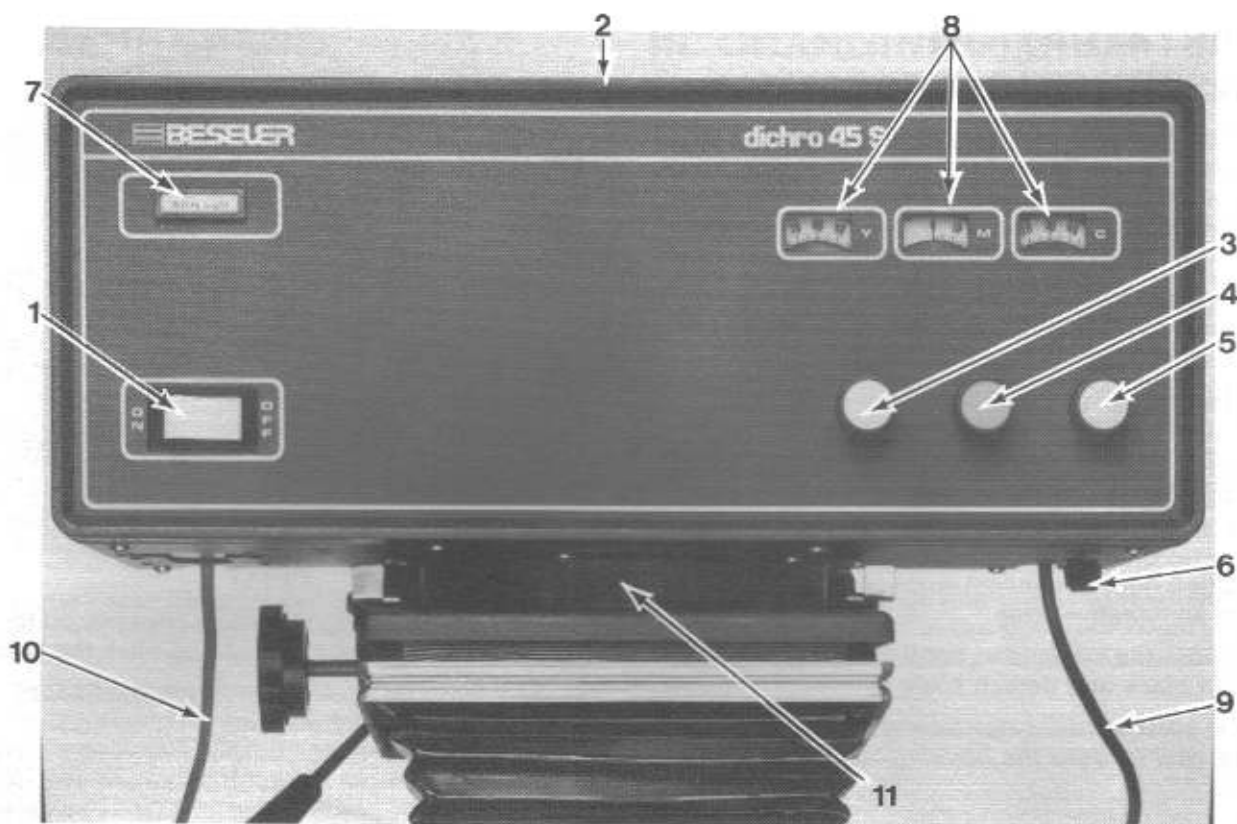
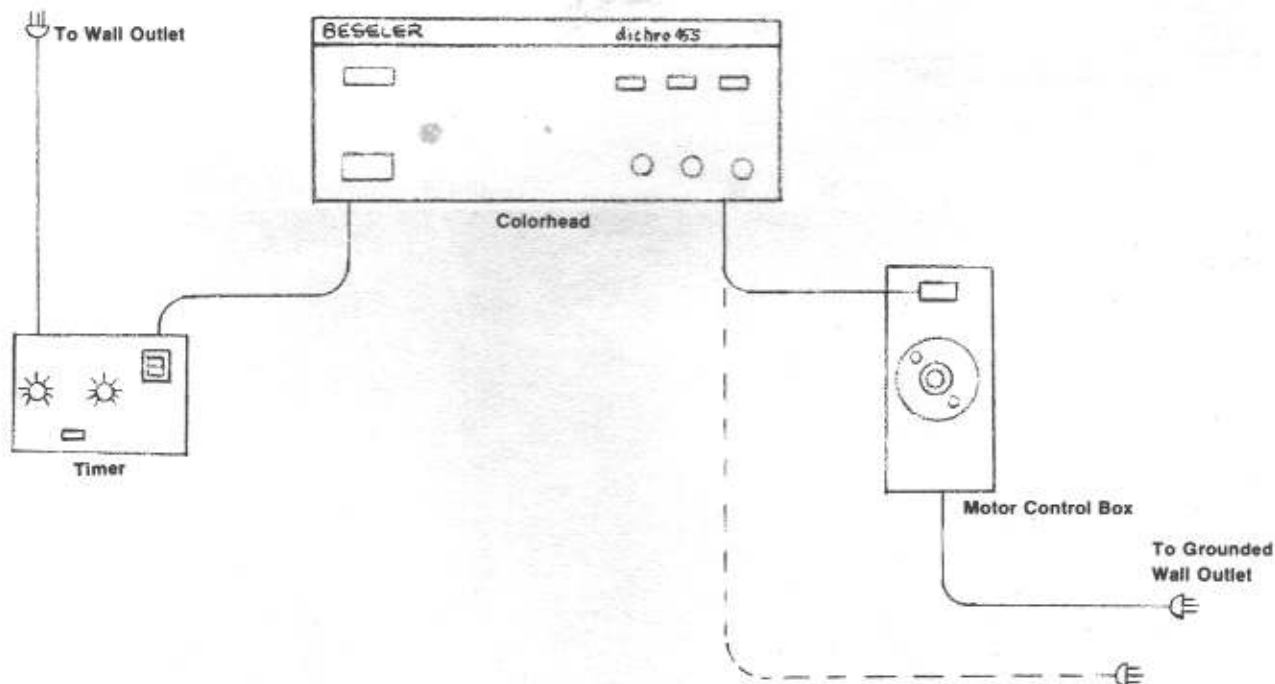

Figure 1
Figure 4
If you desire to begin printing immediately with your Dichro 45S, we suggest that you familiarize yourself with the colorhead and its controls (Figures 1 and 2 with descriptions) and then follow the directions in Section I, Installation Instructions, and Section IV, How to Use the Dichro 45S. The remainder of the manual contains additional valuable information which will increase your understanding of the Dichro 45S.
E. Place the colorhead on the enlarger so that the colorhead mounting collar (Fig. 1, item 11) slides into the opening in the support stage.
G. The lamp and the electronic power supplies in the colorhead are stabilized. DO NOT use an external stabilized power supply unless you are sure the stabilizer output is a good sine wave. The Dichro 45S has two line cords — one for AC line voltage, the other to connect to the timer. The power cord (Fig. 1, item 9) is on the right and should be plugged into the convenience outlet on the enlarger motor box. The grey timer cord (Fig. 1, item 10) is on the left underside of the colorhead and is inserted in the "Enlarger" outlet on your timer. See Figure 4 for typical AC connections. you are now ready to begin diffusion printing with your Dichro 45S.